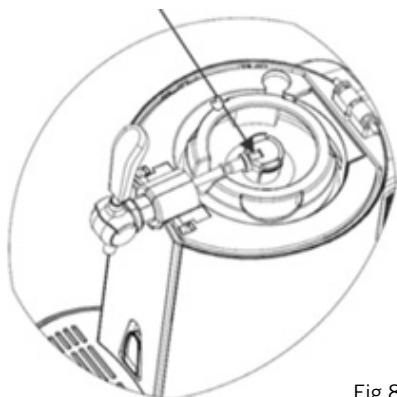

Fig.8
10. Now attach the adapter for "fresh kegs", which is connected to the beer tap system, to the keg with sufficient pressure (Fig. 8).